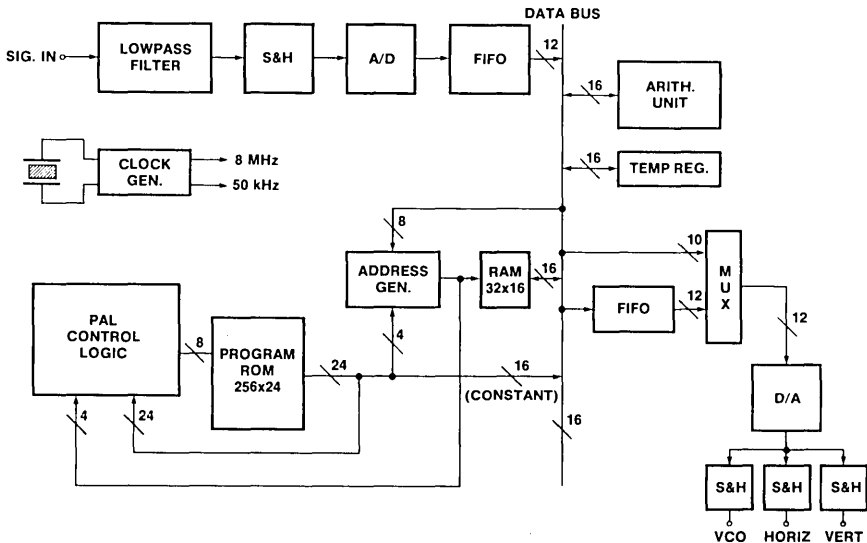

Figure 6. Analyzer Architecture
The architecture used for the spectrum analyzer is shown in Fig. 6. Input signals are digitized and buffered with FIFOs before interface with a common 16-bit data bus. The 16-bit arithmetic unit (AU) provides multiply and accumulate operations. A 16-bit wide RAM stores intermediate results. A 16-bit temporary register facilitates  $z^{-1}$  delays and data movement. Outputs are provided using a D/A converter and S&H circuits.
The architecture of Figure 6 is customized to provide an efficient algorithm for linear-to-logarithmic output conversion. The RAM address generator monitors the 8 MSBs of the data bus, and can provide a number indicating the MSB position of a positive